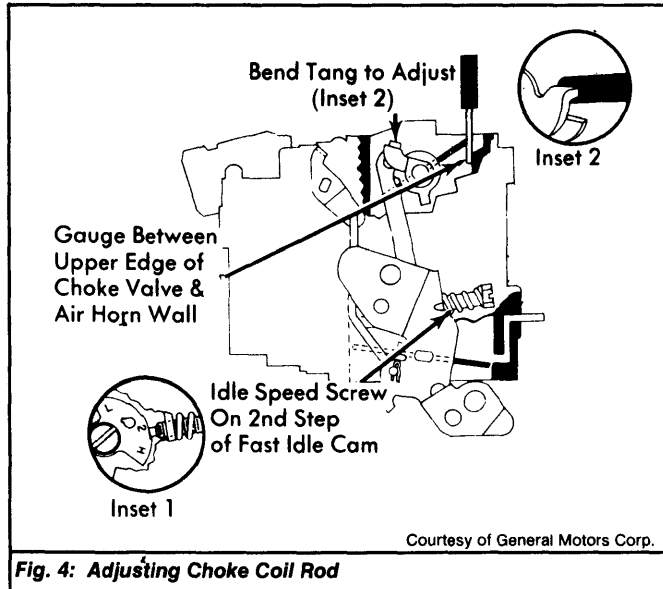

Fig. 4: Adjusting Choke Coil Rod
- 1) Place fast idle speed screw on 2nd step of fast idle cam See Fig. 4. Apply light closing pressure to choke valve.